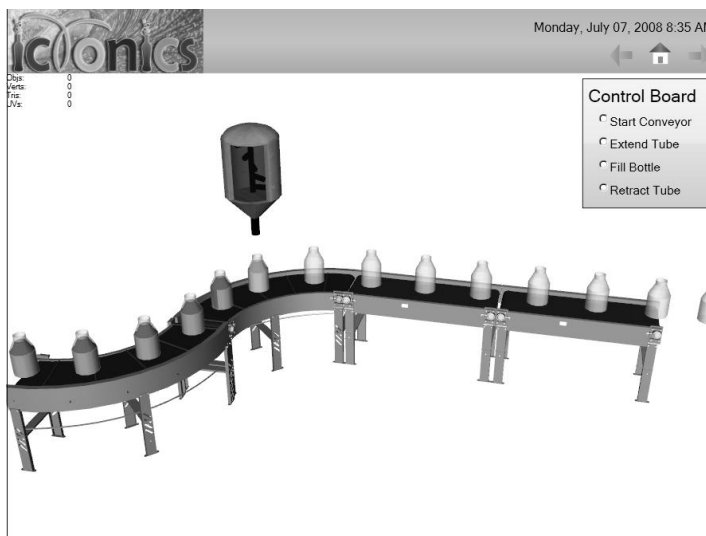

Figure L6.12 - Finished Display
24. Your display should now look similar to Figure L6.12.